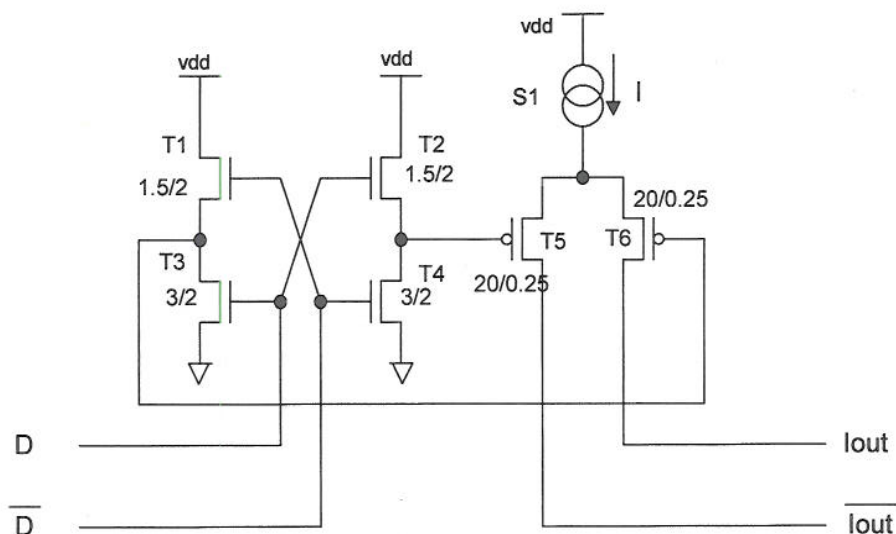

Figure 5.1
5. *Figure 5.1* shows part of the driver and switching circuit of a digital to analogue converter. Transistors T1 to T4 form the differential driver for the current steering switches T5 and T6. The sizes of the transistors are: T1 and T2, 1.5μ (W) x 2.0μ (L); T3 and T4, 3.0μ x 2.0μ ; T5 and T6, 20.0μ x 0.25μ . The outputs I_{out} and $\overline{I_{out}}$ are expected to be connected to external resistors. The inputs D and \overline{D} are complementary signals.